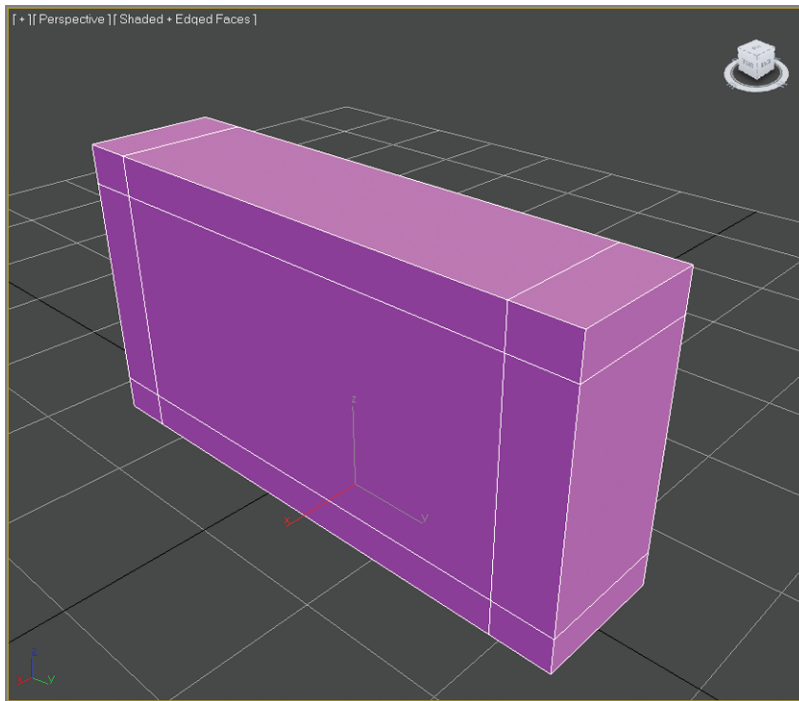

FIGURE 4.5 Use the SwiftLoop tool to add edge loops to the box.
7. Place one of the lines shown in Figure 4.5 by clicking where you want the loop to be added on the box, and then place the other three loops shown in Figure 4.5.